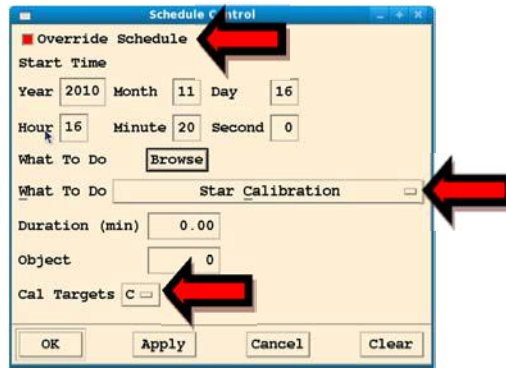

Figure 6-2: Schedule control window
6. **Open the *Schedule* window and configure for Ground Calibration** – (Figure 6-2)